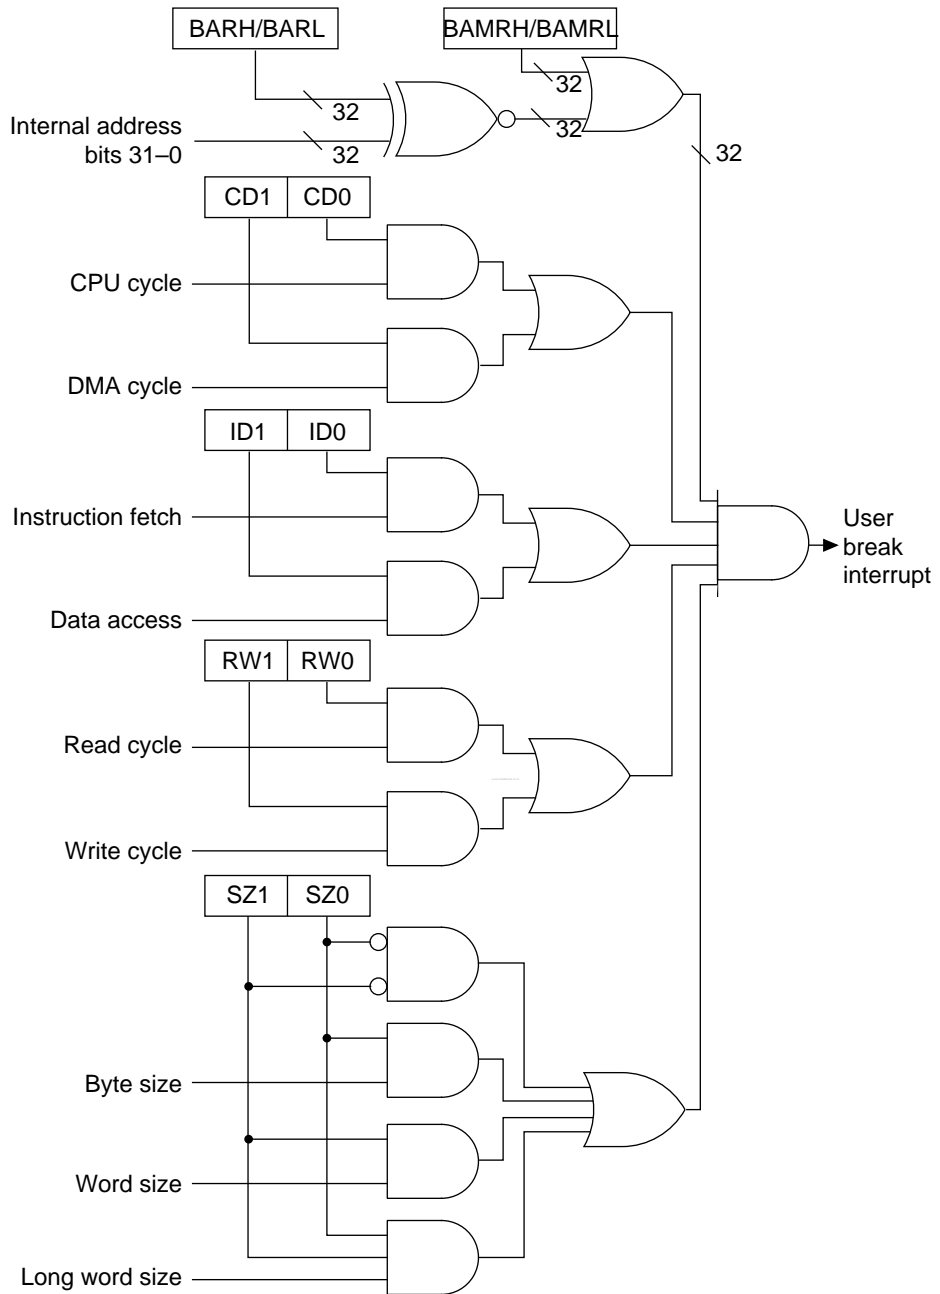

Figure 6.2 Break Condition Logic
2. The UBC checks to see if the set conditions are satisfied, using the system shown in figure 6.2. When the break conditions are satisfied, the UBC sends a user break interrupt request to the interrupt controller.
3. When receiving the user break interrupt request, the interrupt controller checks its priority level. The user break interrupt has priority level 15, so it is accepted only if the interrupt mask level in bits I3–I0 in the status register (SR) is 14 or lower. When the I3–I0 bit level is 15, the user break interrupt cannot be accepted but it is held pending until user break interrupt exception processing is carried out. NMI exception processing sets I3–I0 to level 15, so a user break cannot occur during the NMI service routine unless the NMI service routine itself begins by reducing I3–I0 to level 14 or lower. Section 5, Interrupt Controller, described the handling of priority levels in greater detail.